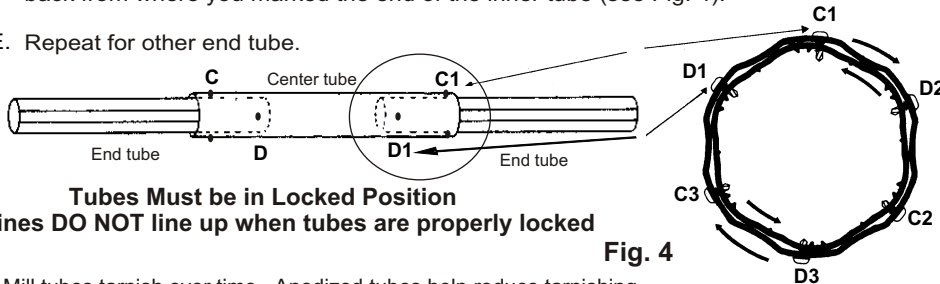

Fig. 4
- B. Lock tubes together by rotating the center tube in the opposite direction to end tube. **HOLD TUBES LOCKED WHILE YOU INSTALL FIRST SELF-DRILLING SCREW ON A DRILL LINE, 1" (2.5 cm) back from end of center tube at location "C1"** (Fig. 4 & 5).
- C. Place 2 more self-drilling screws at Location "C2" and "C3" - 1 screw on every second Drill Line around tubes (see Fig. 4).
- D. At "D" locations, install 3 screws around the center tube on every second drill line, 1" (2.5 cm) back from where you marked the end of the inner tube (see Fig. 4).